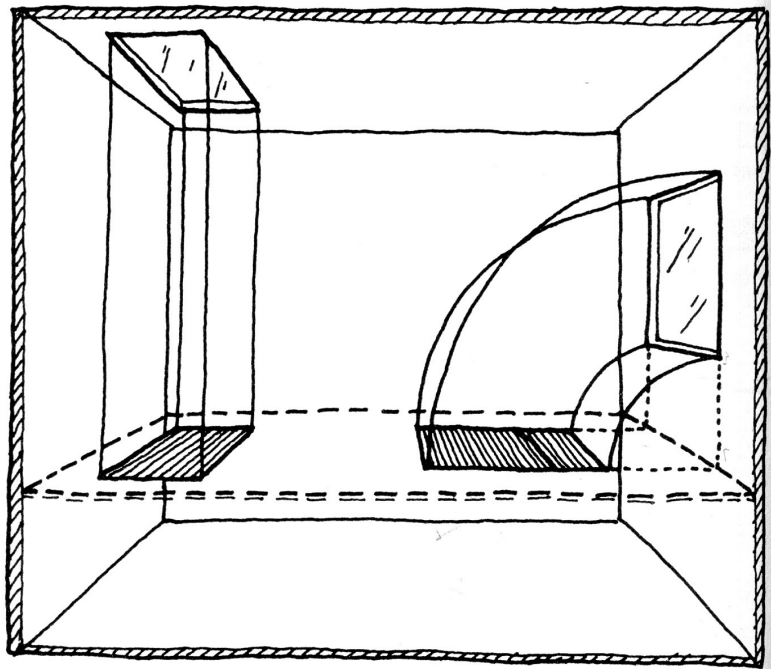

Figure E2.2.3 For GDDM, Drop a Skylight, Rotate a Window
a. Sketch the apertures [Figure E2.2.3].